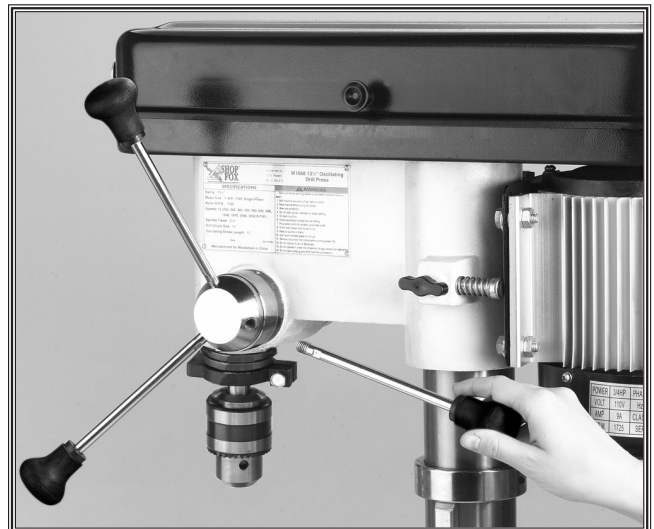

Figure 21. Installing spindle handles.
1. Thread the handles into the hub, as shown in **Figure 21**.